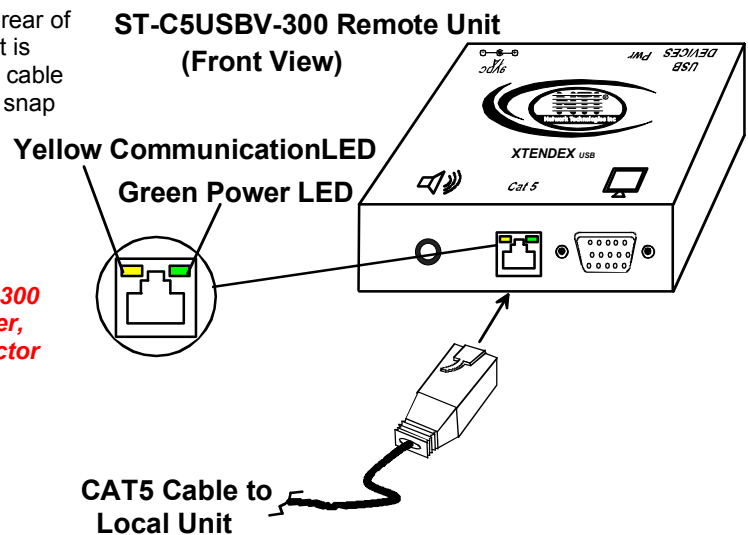

Figure 8- Connect CAT5 cable to the Remote Unit
Connect the CAT5 cable to the “CAT5” port on the rear of the Remote Unit (see Fig. 8). (If an RJ45 wall outlet is being used, connect the other end of the extension cable to it.) When properly inserted the cable end should snap into place.
Connect the CAT5 cable to the "CAT5" port on the front of the Local Unit (see Fig. 8). When properly inserted the cable end should snap into place. Connect the other end of the cable to the "CAT5" port on the Remote Unit.
4. Turn ON the CPU and monitor(s). The CPU and monitor(s) should each react as if they were directly connected to each other. The yellow communication LEDs on the Remote and Local Units (see Fig. 8) should blink indicating there is proper communication between them.